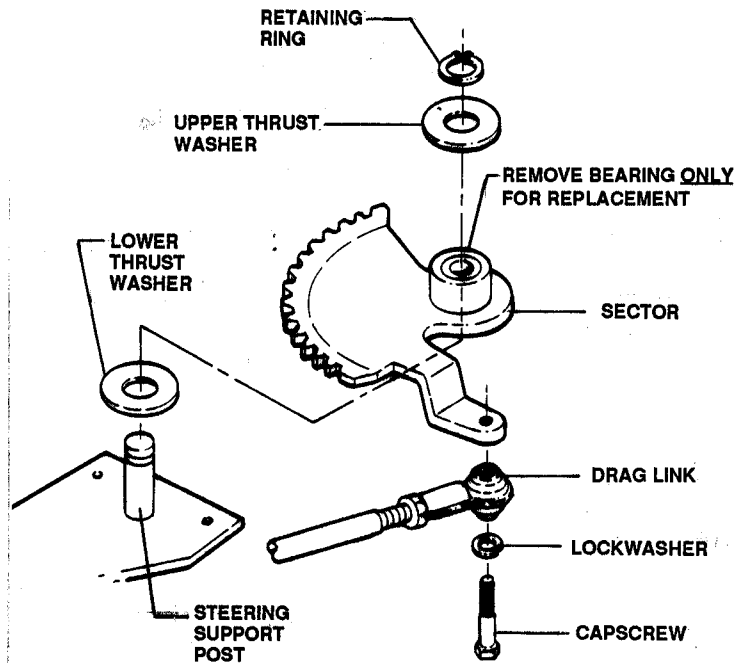

FIGURE 5.9
- (4) Disconnect drag link from sector assembly.
- (5) Remove retaining ring and upper thrust washer from sector assembly.
- (6) Lift sector assembly off steering support post. See Figure 5.9.